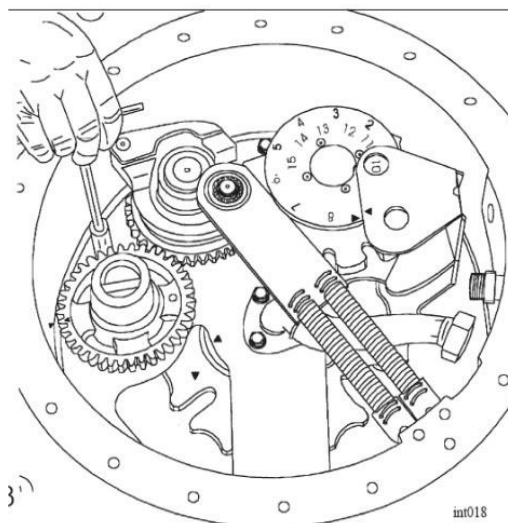

Figure 13 Pull out the positioning pin
- 1) Use 20 pieces of M5 bolts to pull out the spring energy system's fixing pins. Remember the pins' places for future re-assembly (Figure 13).